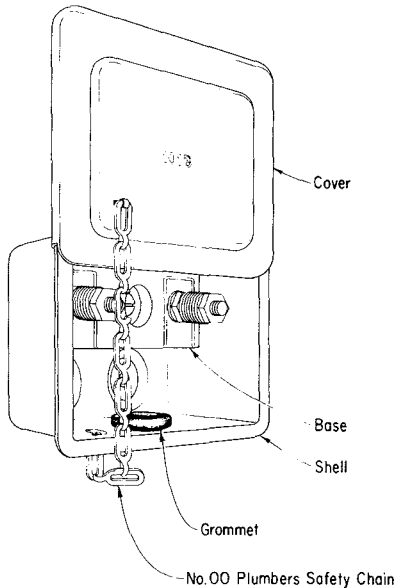

Fig. 7—101B Wire Terminal
4.02 The details of the superseded 101B wire terminal are shown in Fig. 7. Replacement piece parts for this terminal are not available.